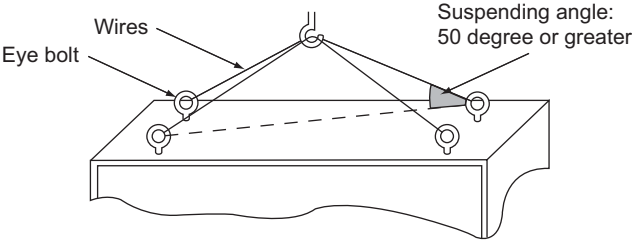

Figure 2.6 State of Suspension with Wires
- Use the wire of a length that ensures a 50 degree or wider suspending angle, as illustrated in Figure 2.6. The maximum allowable load of the eye bolts for suspension cannot be guaranteed when the drive is suspended with the wires at an angle less than 50 degrees.
2. Pass wire through the holes of all the four eye bolts (See Figure 2.6).